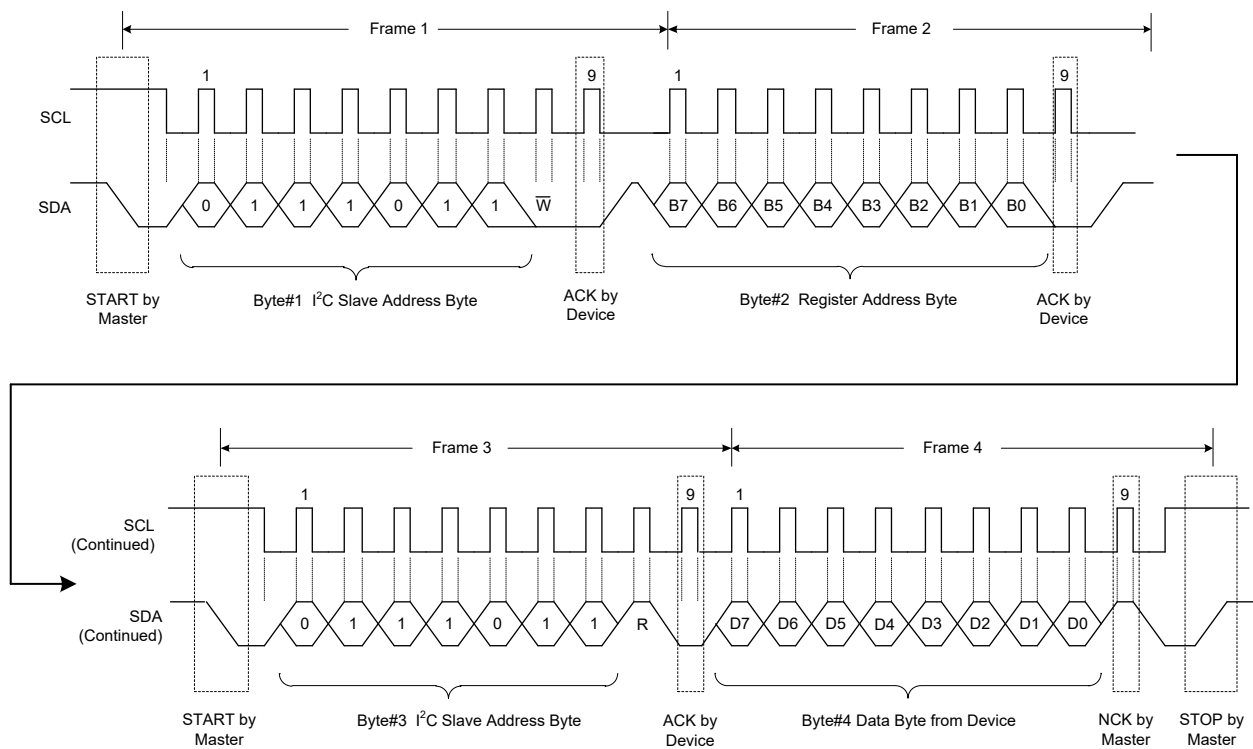

Figure 16. A Single Read Transaction
**READ:** If the master wants to read a single register (Figure 16), it sends a new START condition along with device address with R/W bit = 1. After ACK is received, master reads the SDA line to receive the content of the register. Master replies with NCK to inform slave that no more data is needed (single read) or it can send an ACK to request for sending the next register content (multi-read). This can continue until a NCK is sent by master. A STOP must be sent by master in any case to end the transaction.